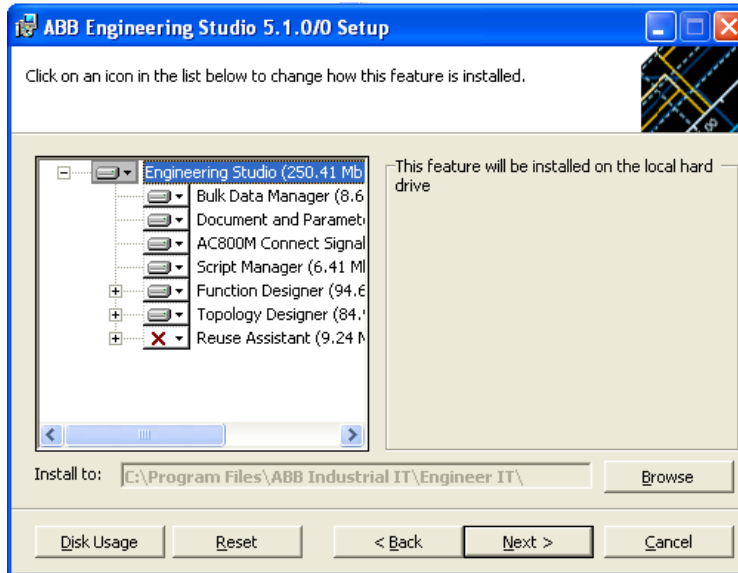

Figure 50. Engineering Studio Change Feature Dialog Box
1. Select **Custom** and click **Next**. This opens the Change Feature dialog box shown in Figure 50.